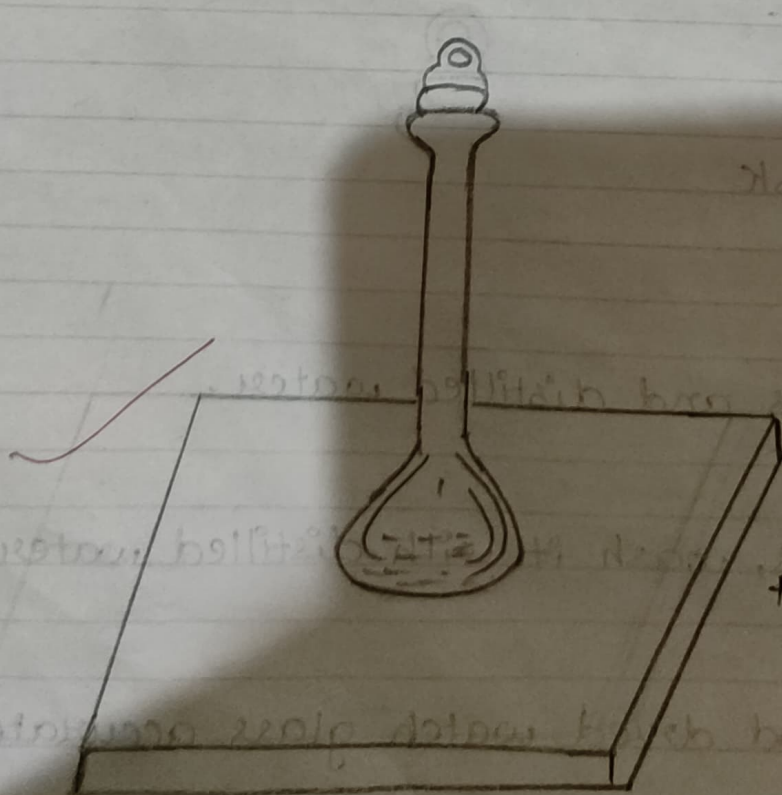

Fig. 11.17. Standard
9) Stopper the measuring flask and shake gently to make the solution uniform through out. Label it as 0.1M oxalic acid soln. [fig. 11.17]